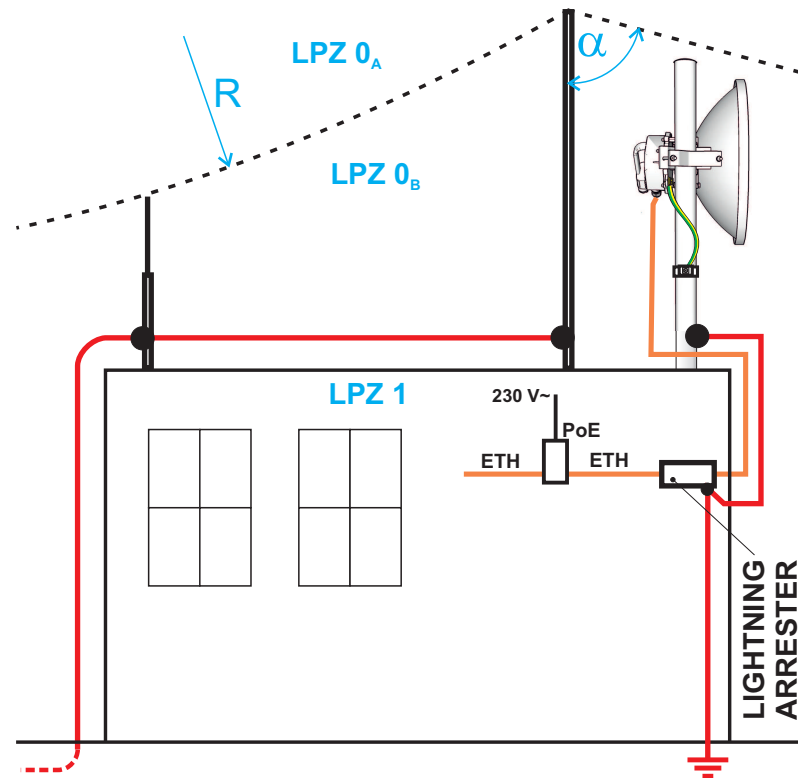
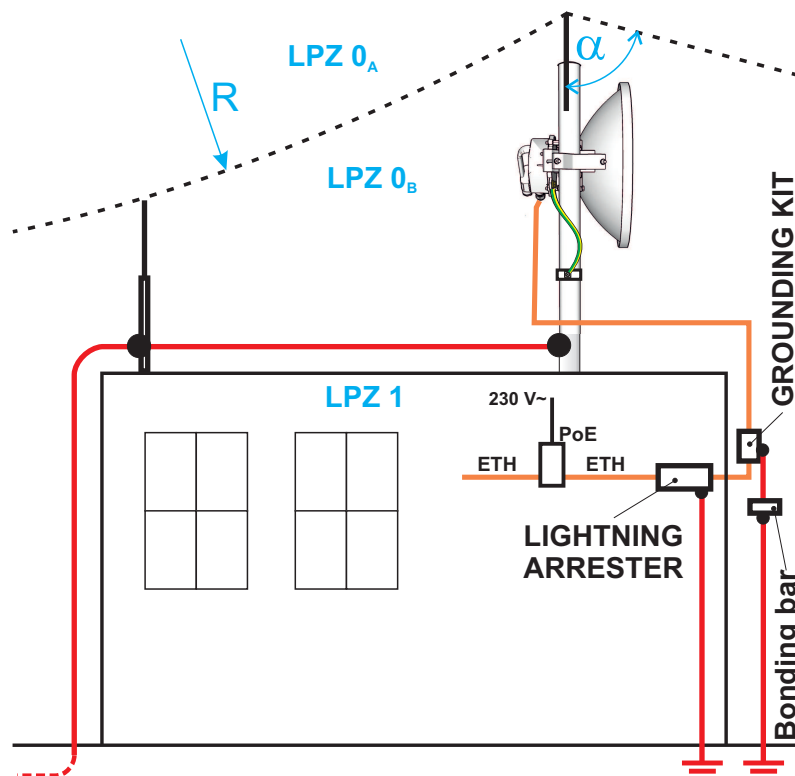

Fig. 4.19: Grounding installation 1
Fig. 4.20: Grounding installation 2
Typically the unit is grounded to the antenna mast, which has to be properly grounded (according to Fig. 4.19, “Grounding installation 1” and Fig. 4.20, “Grounding installation 2”, where unit grounding to the antenna mast is marked by yellow-green cable).
2. When meeting conditions for ensuring electrical insulation (distance from the lightning conductor) in accordance with article 6.3 of this standard, it is not recommended to ground the load-bearing structure and antenna to the external air termination network. Grounding should be attached to the protective system of the internal LV (Low Voltage) wiring or grounded internal structures using a CYA 6 mm2 bonding conductor , see Fig. 4.19 *Grounding installation 1*.
3. If it is not possible to set up conditions of electrical insulation in accordance with article 6.3 of this standard, we recommend connecting the load-bearing structure at roof level to the external air termination network via an 8mm diameter FeZn conductor and shielding the data cable before entry to the building with a grounding kit and CYA 6 mm2 conductor to the bonding bus, and if not already set up then also to the external air termination network, see Fig. 4.20 *Grounding installation 2*.
*Overvoltage protection* unit is recommended to be applied between RAY unit and PoE power supply – for details see *Section 4.5, “Grounding and overvoltage protection”* (easily visible on *Fig. 4.19, “Grounding installation 1”*).